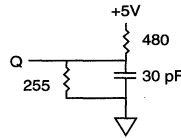

Fig. 1 OUTPUT LOAD EQUIVALENT
Output load	See Figures 1 and 2
- Test conditions as specified with the output loading as shown in Fig. 1, unless otherwise noted.